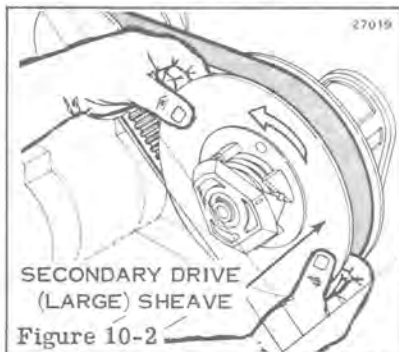

Figure 10-2
- To release belt, pull secondary sliding sheave while twisting to left, Figure 10-2.